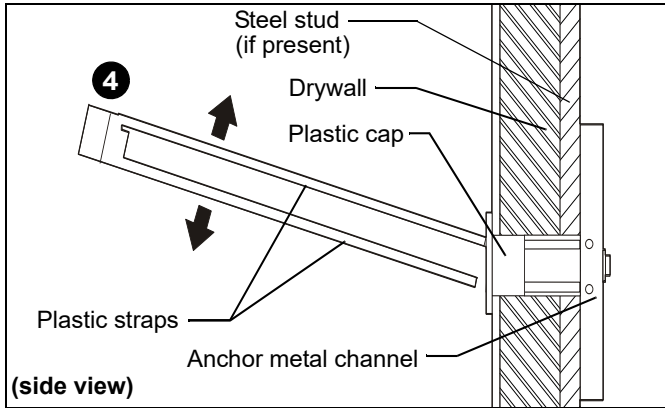

Figure 23
4. Snap off plastic straps on anchor at wall by pushing side to side, snapping off straps level with flange of plastic cap. (See Figure 23)